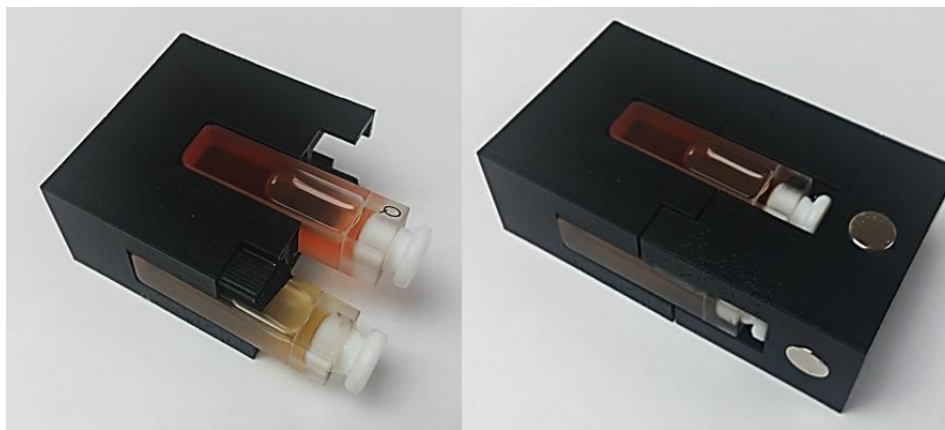

Figure 5.6 Cuvette Holder Assembly
2. Insert diesel and motor oil cuvettes in to the cuvette holder (Fig. 5.6)